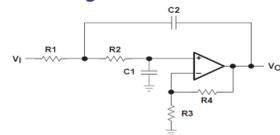

Fig.2: 2nd Order Low Pass Filter
- Designing of a second order active low pass filter, with a cutoff frequency of 60Hz, see fig.2.